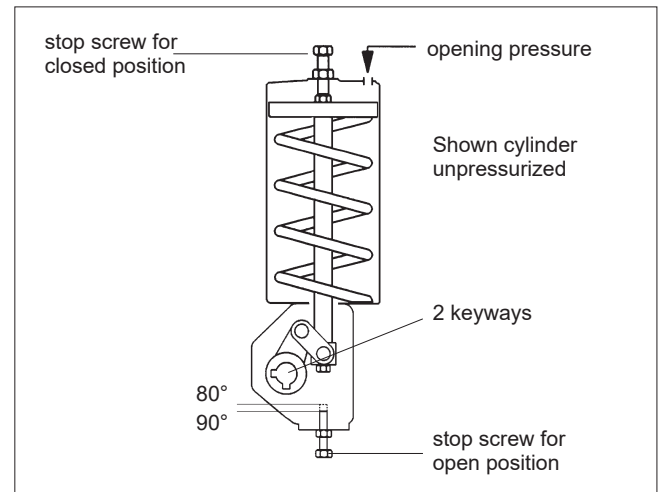

Fig. 19 Example of spring-to-close pneumatic actuator stop screw adjustment in B1J series
- Ensure valve stem key (25) is installed in the keyway
- Insert the coupler (part of mounting hardware) on the stem (21) by aligning the with the stem key (25) and keyway of coupler
- Install a mounting bracket through coupler (63) and fasten the bracket with valve body using correct bolting, spring washers / split washer as applicable
- After installation of the actuator, it is then necessary to adjust the travel stops for the proper full-open and full-close valve position (see Figure 19, 20, 21)